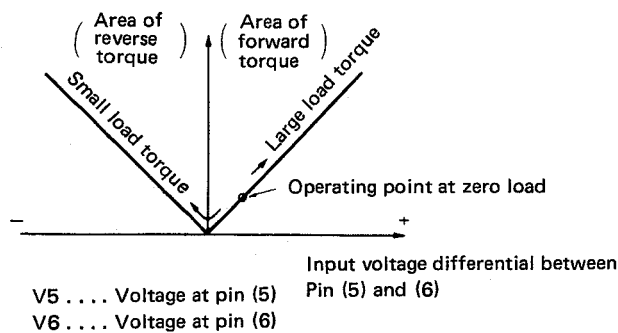

Fig.10-2 PA2008 absolute value amp input/output response.
- When the motor starts to rotate, the signal from the frequency generator (FG) at the motor rotating section is shaped into a 50% duty square wave by the waveform shaping block and is applied to pin ⑮ (RG ref) and pin ⑬ (FG IN) of PA2007. The frequencies obtained here are 55.55 Hz for 33 rpm and 75 Hz for 45 rpm.
- On the other hand, the 6.144 MHz signal of the crystal oscillator installed outside the oscillation and division IC PD1003 is divided to 1/4096 by the division circuit of PD1003. This signal is converted to phase comparison sampling pulses by a division ratio selection circuit. At 45 rpm, the signal is divided to 1/20 (65 Hz) and for 33 rpm, the signal is divided to 1/27 (55.5 Hz), and applied to pin ⑦ of PA2007.
- The buffer amp 1 and 2 outputs are combined and the output (pin ⑪) for comparison with the reference voltage is sent to pin ⑥ of the absolute value amp of PA2008.
- At absolute value amp PA2008, the input signal is compared with the reference voltage (Vref) from pin ⑫ of PA2007 and the motor winding current is generated according to the voltage difference.
- Since the speed does not reach the rated speed when the motor is started, the voltage is lower than the reference voltage (Vref; 5.15V). Therefore, the absolute value amp gives a command which generates a positive torque to the rotating direction command circuit so the motor speed is raised. Then the motor gradually reaches constant speed. (See Fig. 10-2.) (When the motor speed is faster than the rated speed, since the voltage is higher than the reference voltage, the absolute value amp applies reverse braking torque to the rotating direction command circuit so the motor speed drops. Then the speed returns to the rated speed.)